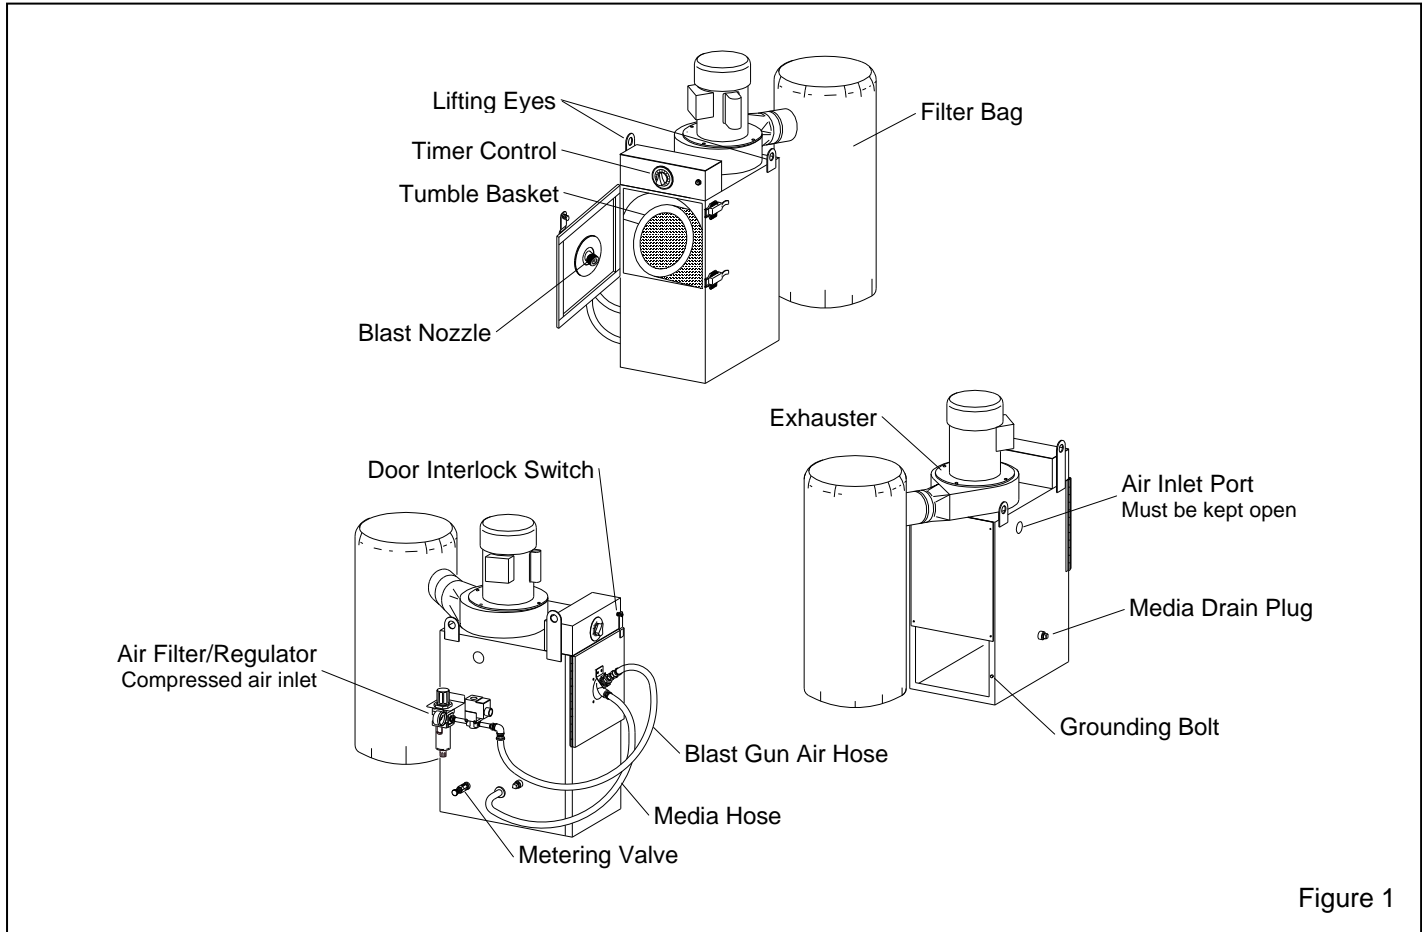

Figure 1
1.3.1 The DCM-161 tumble cabinet blasts small batches of parts, using a fixed nozzle and rotating basket. See Figure 1 for arrangement and call outs of primary components.